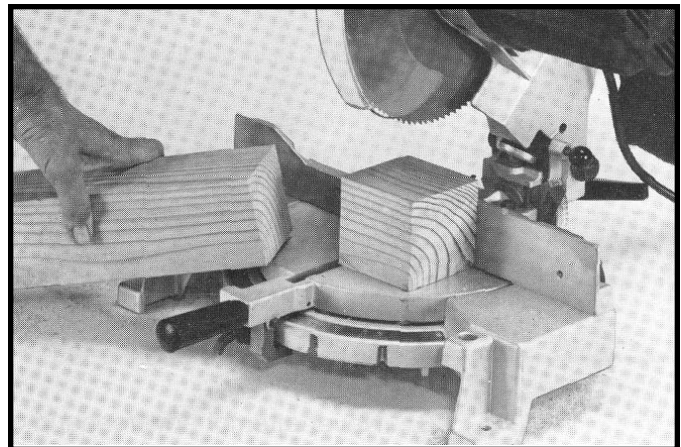

Fig. 37
2. Cutting a standard 4 x 4 is easily accomplished with your compound miter box, as shown in Fig. 37.